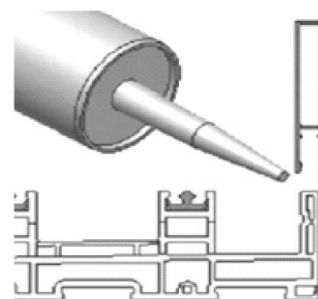
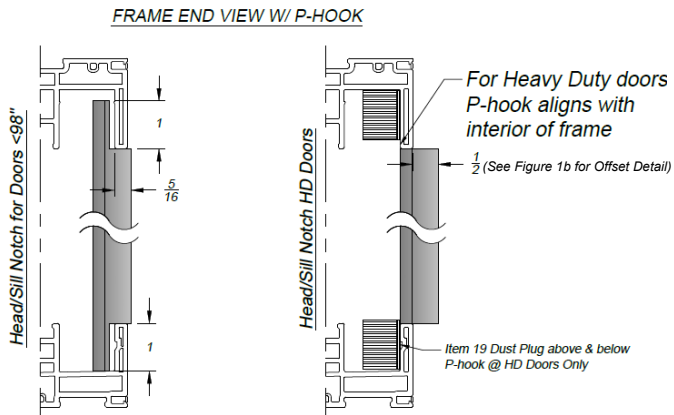
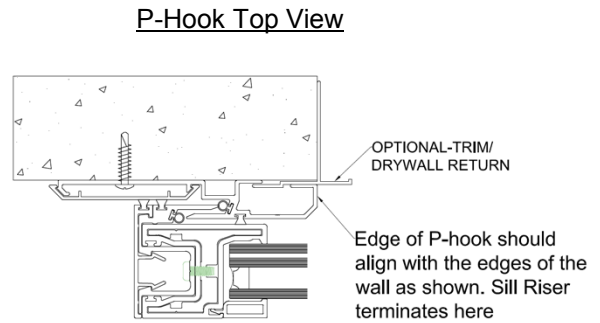

Figure 16
Figure 18a
Figure 18b
1. Locate the frame sill (Item 1) and the sill track inserts (Item 3; Figure 16). Set the assembly on a flat, supported surface and install track inserts by sliding them in through the ends of the frame sill.
**7. By-pass doors, skip to Step 9; Pocket Doors Only:** Seal under entire length of P-hook (Item 16) and position it on the wall at the pocket opening aligning the notches with the frame head and sill (Figure 18a). The edge of the P-hook should align with the edge of the wall (Figure 18b).
**8.** The sill riser will require trimming in order to butt up against the P-hook (Figure 18b). Line the sill riser up with the frame sill and apply a small bead of sealant to the top of the sill (Figure 16). Secure the sill riser into place with a rubber mallet, ensuring it snaps into place.